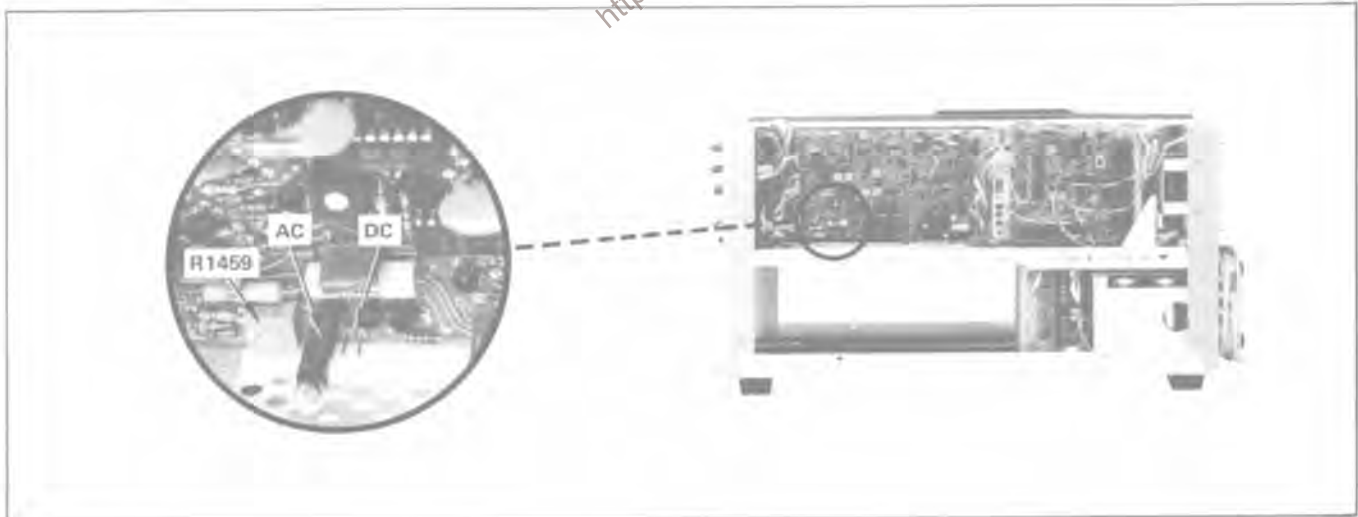

Figure 5-2. Location of Calibrator AC/DC jumper.
- a. Change jumper P1440 to the DC position (see Figure 5-2).
- a. Change jumper P1440 to the AC position (see Figure 5-2).